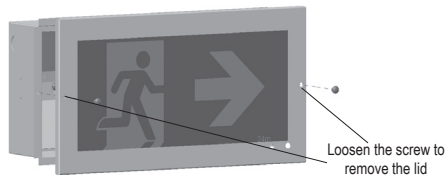
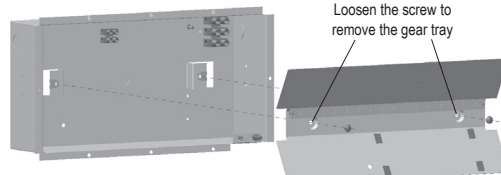

Figure 1
Figure 2
2. Undo 2 screws and remove the lid as shown in figure 1.
3. Undo 2 screws and remove the lid as shown in figure 1.
4. Undo 2 screws and remove the gear tray from the base as shown in figure 2.
14. Secure the gear tray to the base by 2 screws as shown in figure 2 and lid as shown in figure 1.